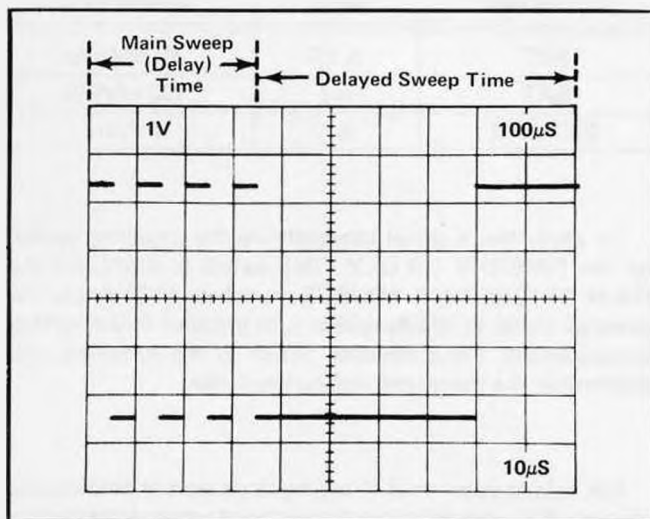

Fig. 1-11. Typical Mixed Sweep display (DELAY TIME MULT dial set to 3.55).
**Mixed Sweep Operation.** The MIXED Display Mode is selected when the DLY'D SWP Display Mode is selected and the VARIABLE knob is pulled out. In this mode, the main sweep is displayed on the CRT to a point determined by the DELAY TIME MULT dial; the remainder of the sweep is at a rate determined by the delayed sweep. Triggering for the main sweep portion of display is controlled by the MAIN TRIGGERING controls; and triggering for the delayed sweep portion of display is controlled by the DLY'D TRIG controls. A typical mixed sweep display is shown in Fig. 1-11.